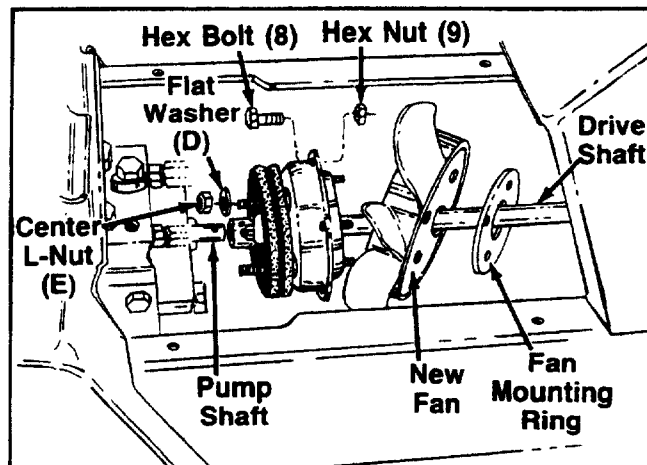
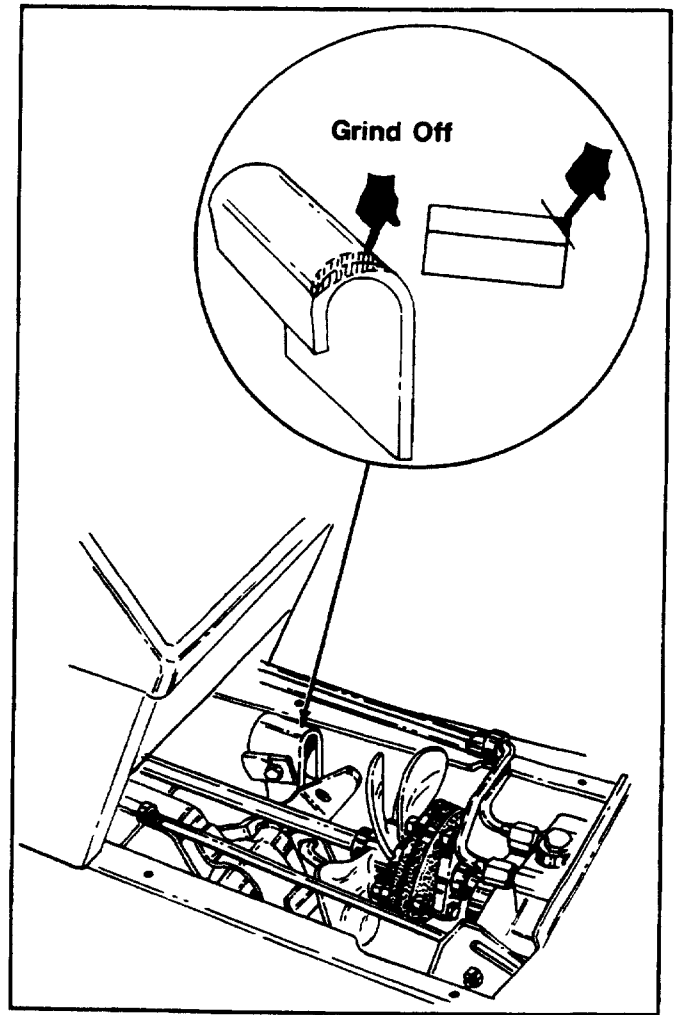

FIGURE 9.
FIGURE 11.
12. Remove (2) hex bolts (Ref. 8) and hex nut (Ref. 9) from clutch assembly, shown in figure 9.
16. Place front of drive shaft through coupling ①, flexible rubber discs and into alignable coupling as far forward as possible.
17. Insert a 1/4-20 bolt into coupling ① and line up hole in drive shaft.
18. Install coupling ③ with flexible discs onto drive shaft, and align (2) holes in flexible discs with bolts on rear clutch cover. See figure 9.
19. While holding clutch coupling and flexible disc assemblies together, line up with pump shaft and slide onto pump shaft. See figure 9.
25. Slide front clutch cover rearward and align four mounting holes with rear clutch cover and fasten securely with four hex bolts (H) and four hex patch nuts (C).
26. Assemble the two flat washers and lock nuts at rubber disc and rear clutch cover. Tighten securely. See figure 9.
27. Slide the new fan into position and secure with fan mounting ring and four hex patch nuts (C) ($\frac{1}{4}$ -20 thread) provided in kit.
28. Move the lift unit on tractor to the highest position and check fan clearance at lift bracket. Grind off lift bracket if necessary. See figure 11.